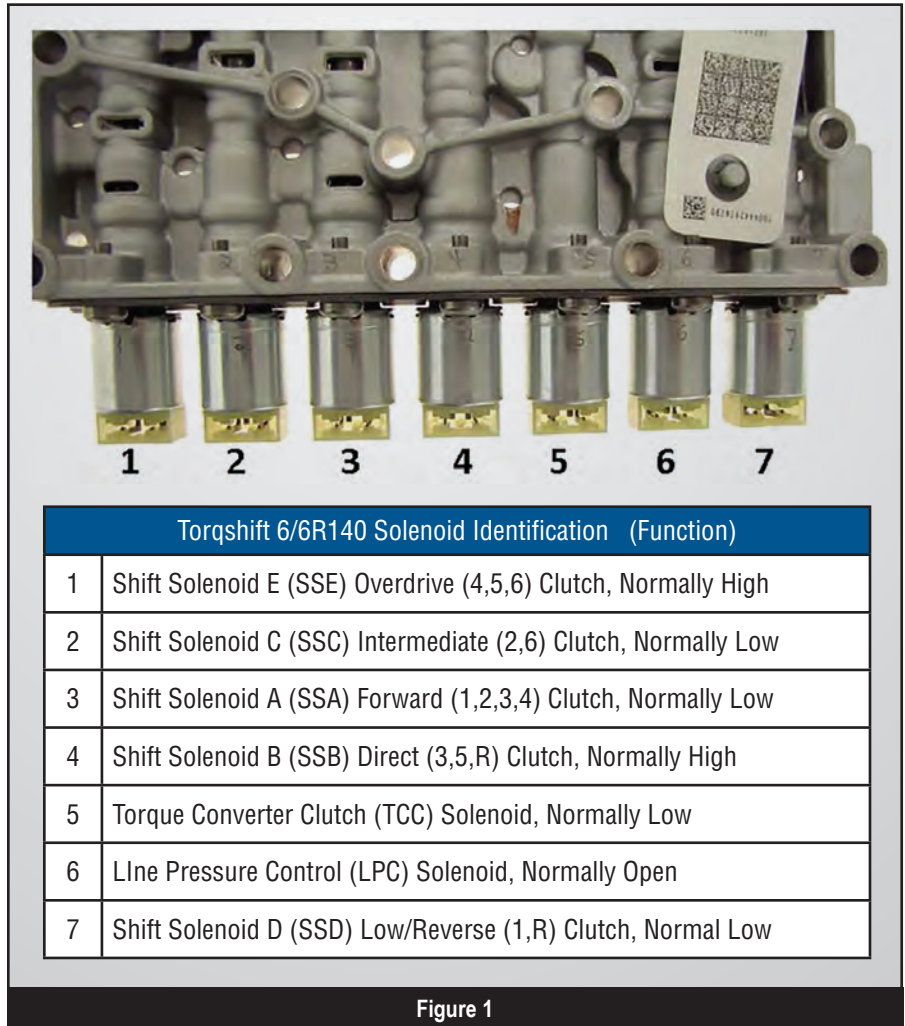

Figure 1
- Solenoid function. Solenoids aren't interchangeable and must be reinstalled in their correct locations. You can identify solenoids by body color and band-width identification number (2-5) marked on solenoid (figure 1).